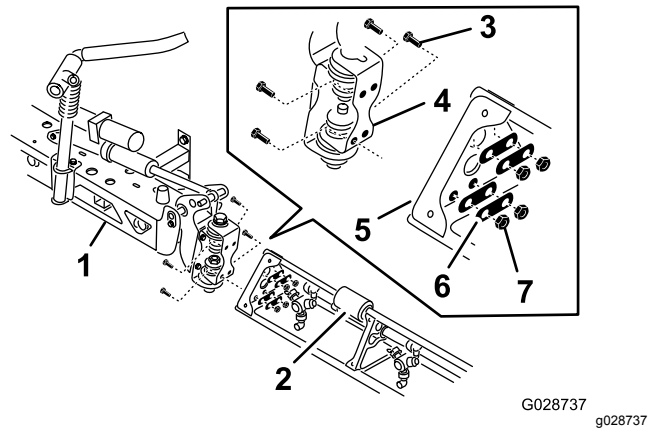

Figure 40
- Rotate each pivot bracket at the end of the center boom section so that the brackets align vertically (Figure 40).
4. Assemble hinge plate to the triangular plate using 4 flanged-head bolts, 4 backing plates, and 4 flanged locknuts (Figure 40), that you removed in step 1 .
6. Align the rod end of the boom lift cylinder with the holes in the horn of the pivot bracket (Figure 40).
7. Secure the rod end to the pivot bracket with a clevis pin and a hairpin (Figure 40).